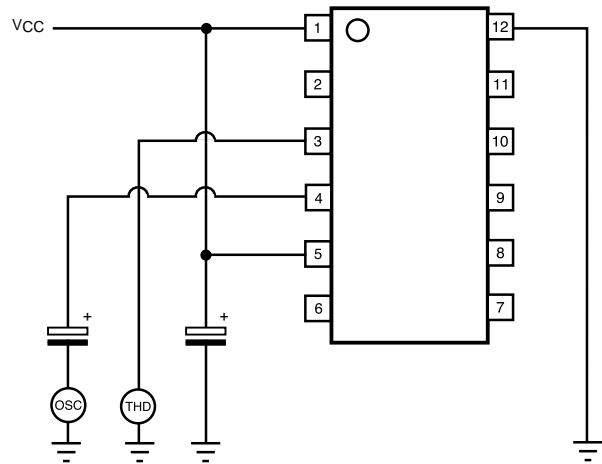

**Figure 3**
**CONTROL INPUT IMPEDANCE (FIGURE 3)**